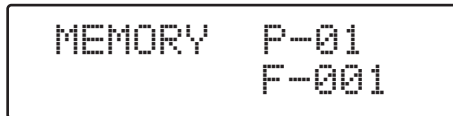

Fig 17.
1. Press the STOP button (4) to stop playback (if required).
2. Press the MEMORY button on the remote control. You will see the below options appear on the display. (Fig 17)